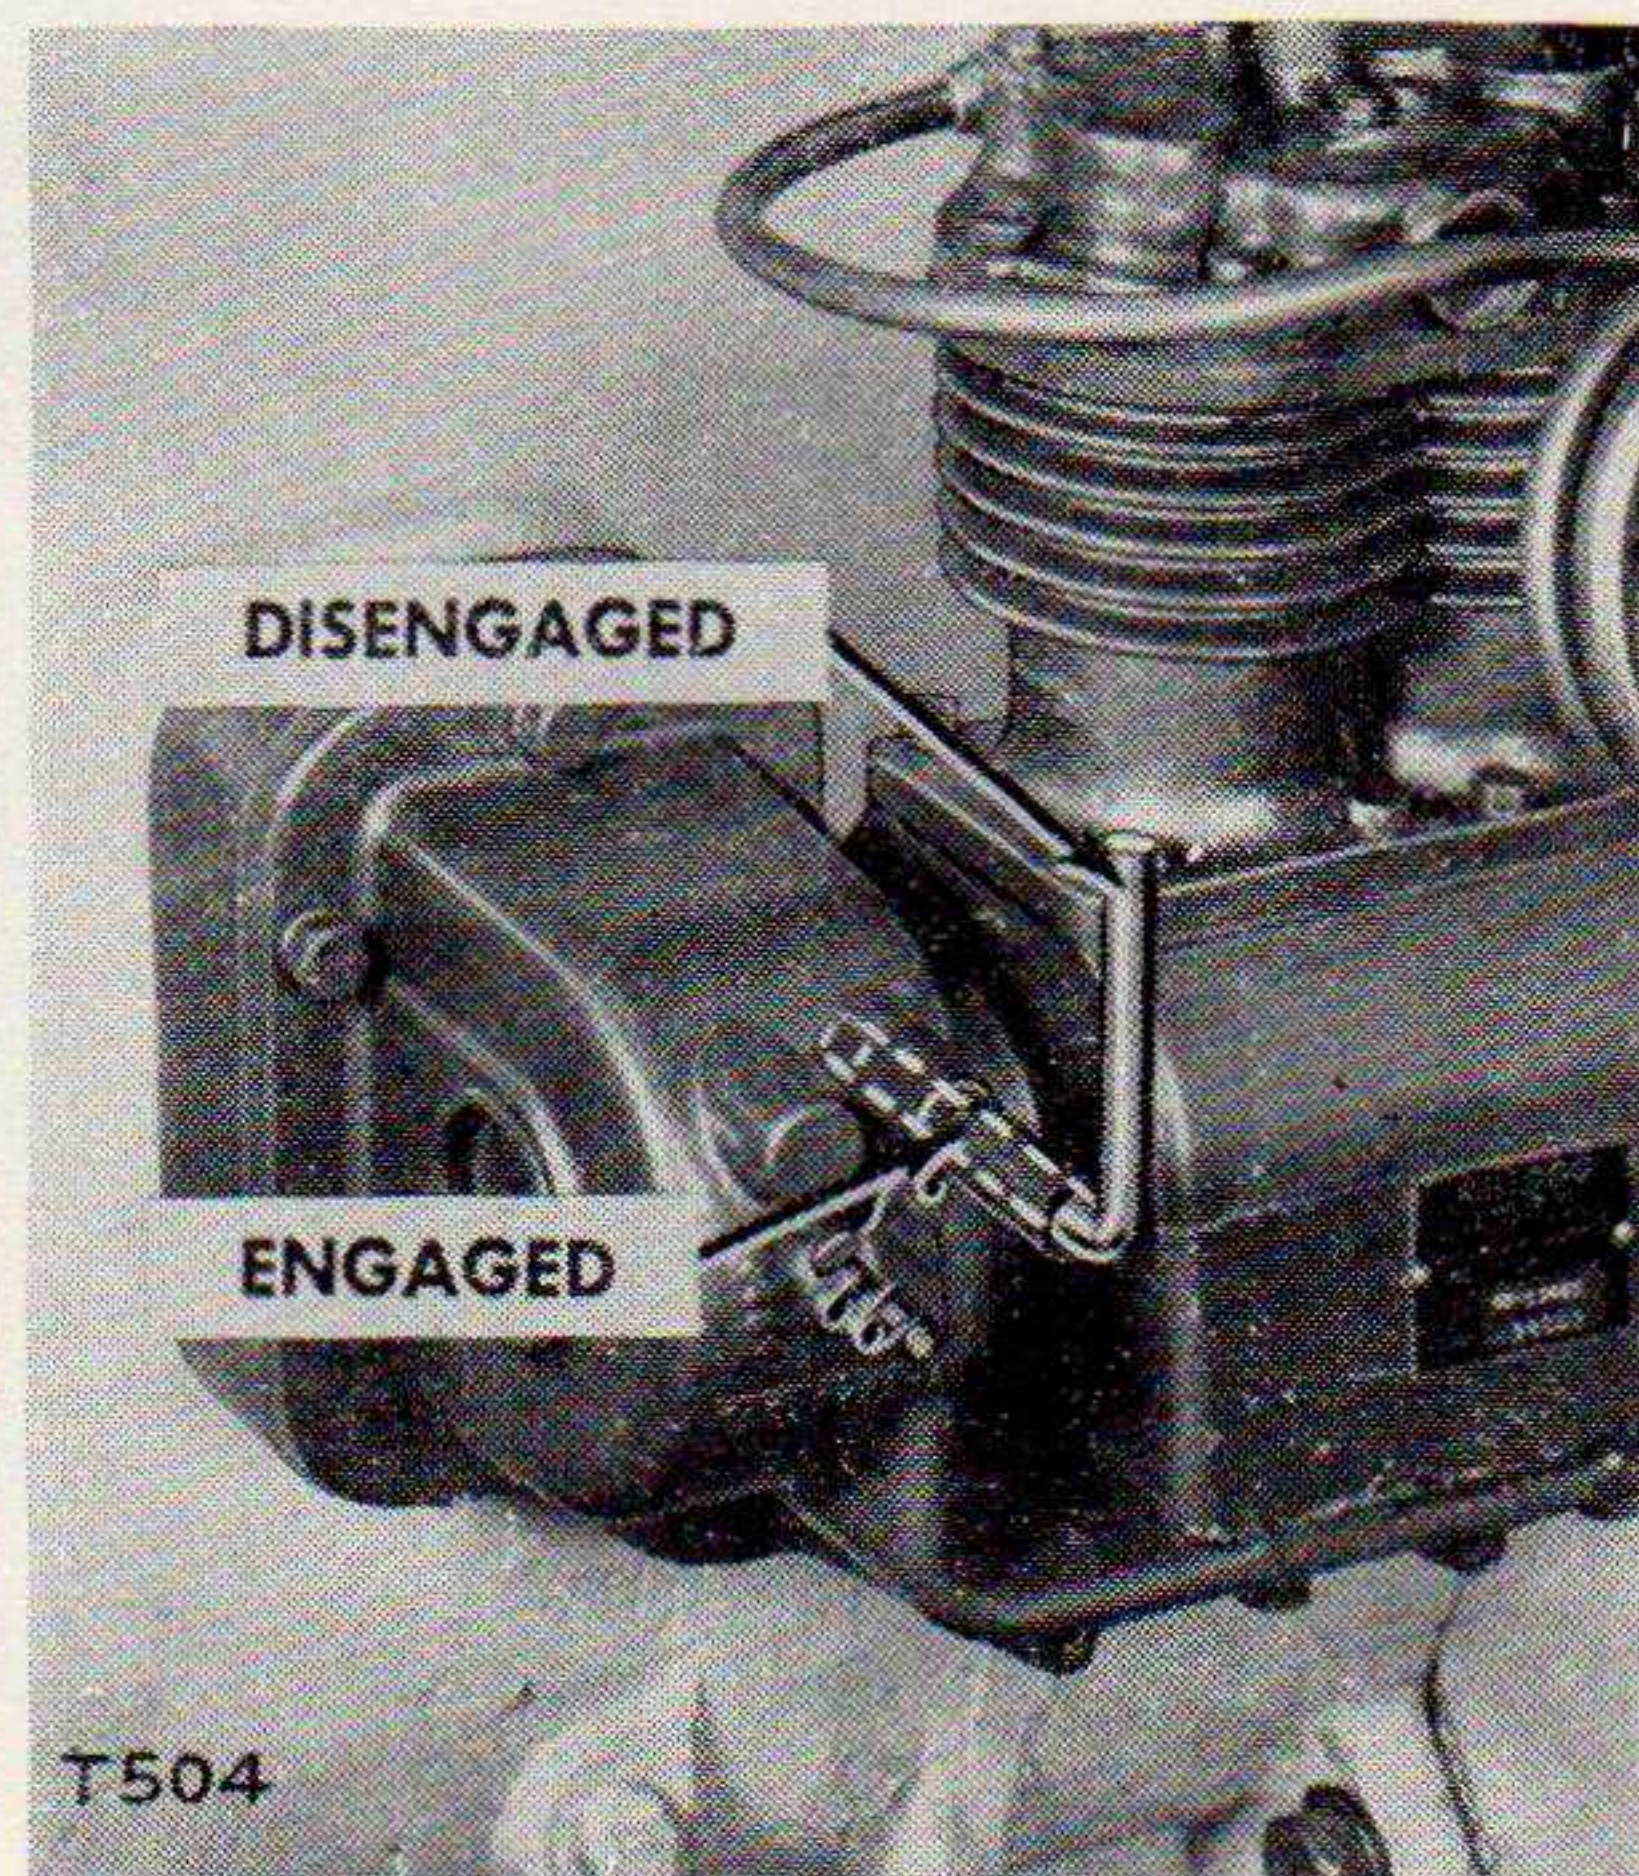

Figure 50. Tire pump control lever.
- (1) Be sure the motor grader transmission shift levers are in neutral.
- (2) Remove the air pressure connection cover and connect the hose.
- (3) Using the control lever on the side of the tire pump, shift the pump drive gear into mesh with the reverse idler gear. (See fig. 50.)
- (4) Shift the motor grader gear shift lever into "LOW" gear position, place the throttle in the lowest idle speed position and engage the flywheel clutch. Use only "LOW" idle engine speed to operate the pump.